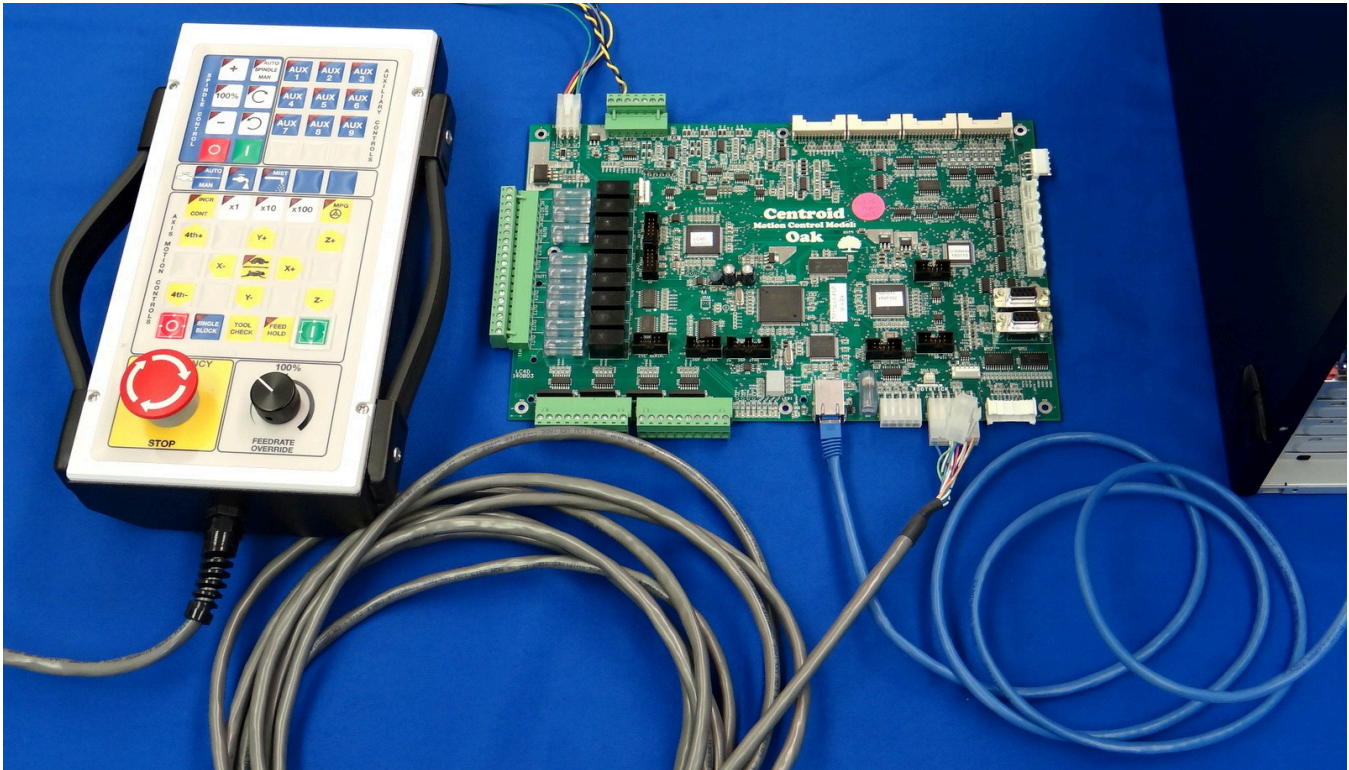

Figure 2.4.1
- If a Jog Panel/Pendant or MPG was ordered, please connect it to the Oak Board as seen in Figures 2.4.1 and 2.4.2.